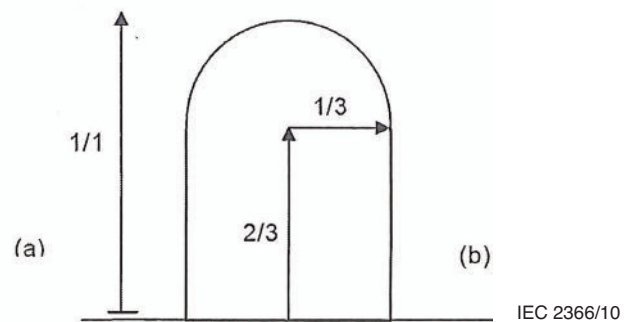

Figure 1 - Arm's reach
- The probability of contact, taking into account the arm's reach of a person shown in Figure 1 and Table 1.
Age (Years)	Arm's reach in the vertical direction (see (a) of Figure 1) measured from the floor (m)